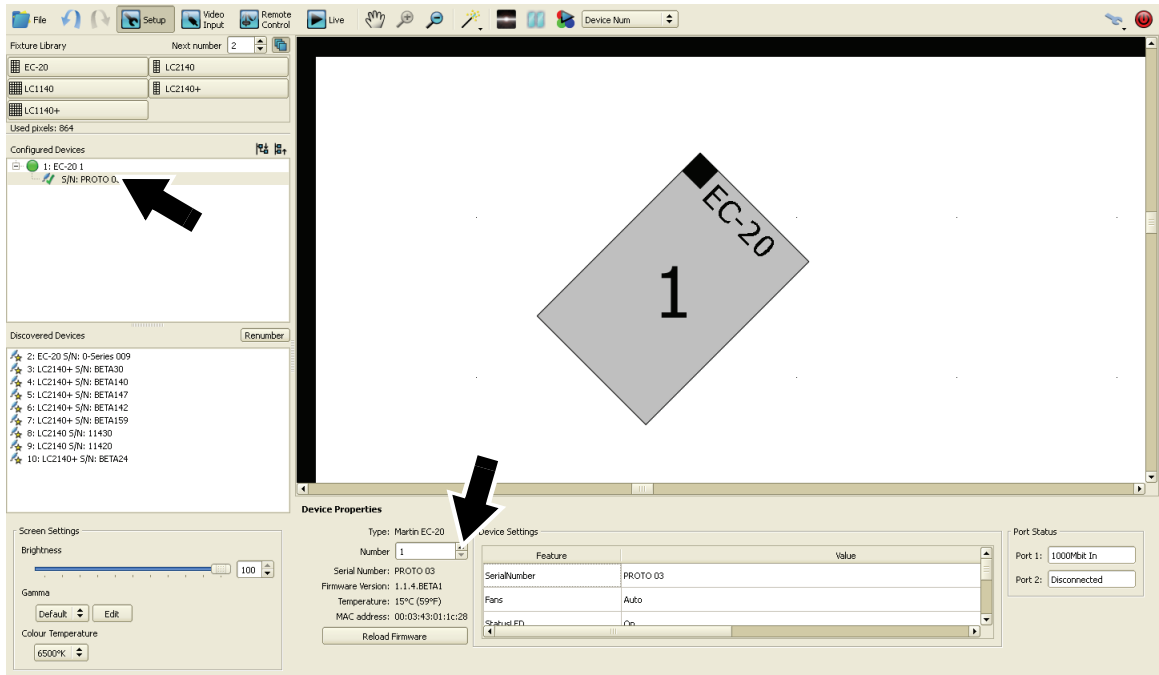

Figure 23: Device Properties for Configured Devices
3. See Figure 23. If any panels are listed under **Configured Devices**, click on the plus symbol next to each panel so that you can see each panel's serial number (arrowed), then click on each panel's serial number to select that physical panel. Each time you select a physical panel's serial number, its **Device Properties** will appear at the bottom of the **Setup** window.
- See Figure 23. Check that each panel has the correct display address for its position in the installation with reference to the panel numbers in your on-screen installation. If the panel's display address is not correct, enter its correct display address in the **Number** box (arrowed) under **Device Properties**. The panel's display address should now be correctly matched to its position in the physical installation.